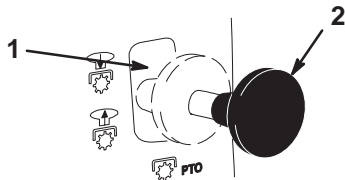

Figure 5
2. Pull the blade control (PTO) to Engaged (Fig. 5).
2. Push the blade control (PTO) to Disengaged (Fig. 5).